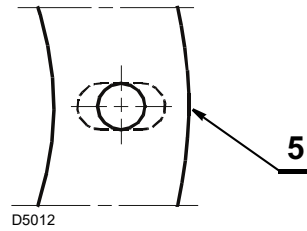

Fig. 8
- if necessary, widen the holes of the insulating gasket 5)(Fig. 8), taking care not to damage it.